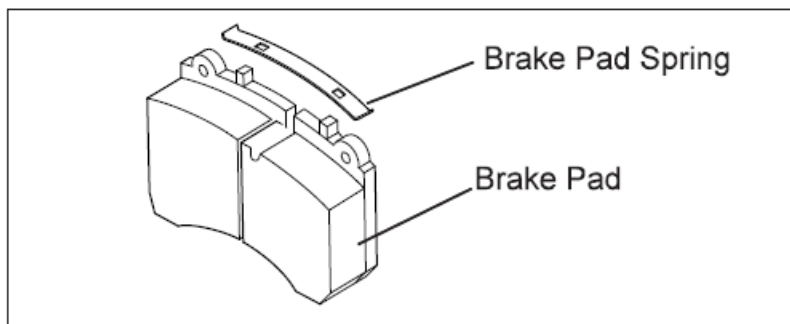

Figure 15: Pad Retaining Spring Installation
20. Install the brake pad retaining springs onto the brake pads by inserting one end of the spring onto the lug at the top of the brake pad. Carefully apply enough force to permit the second lug to fully engage, taking care to keep fingers, etc. away from the spring as it seats. **See Figure 15.**